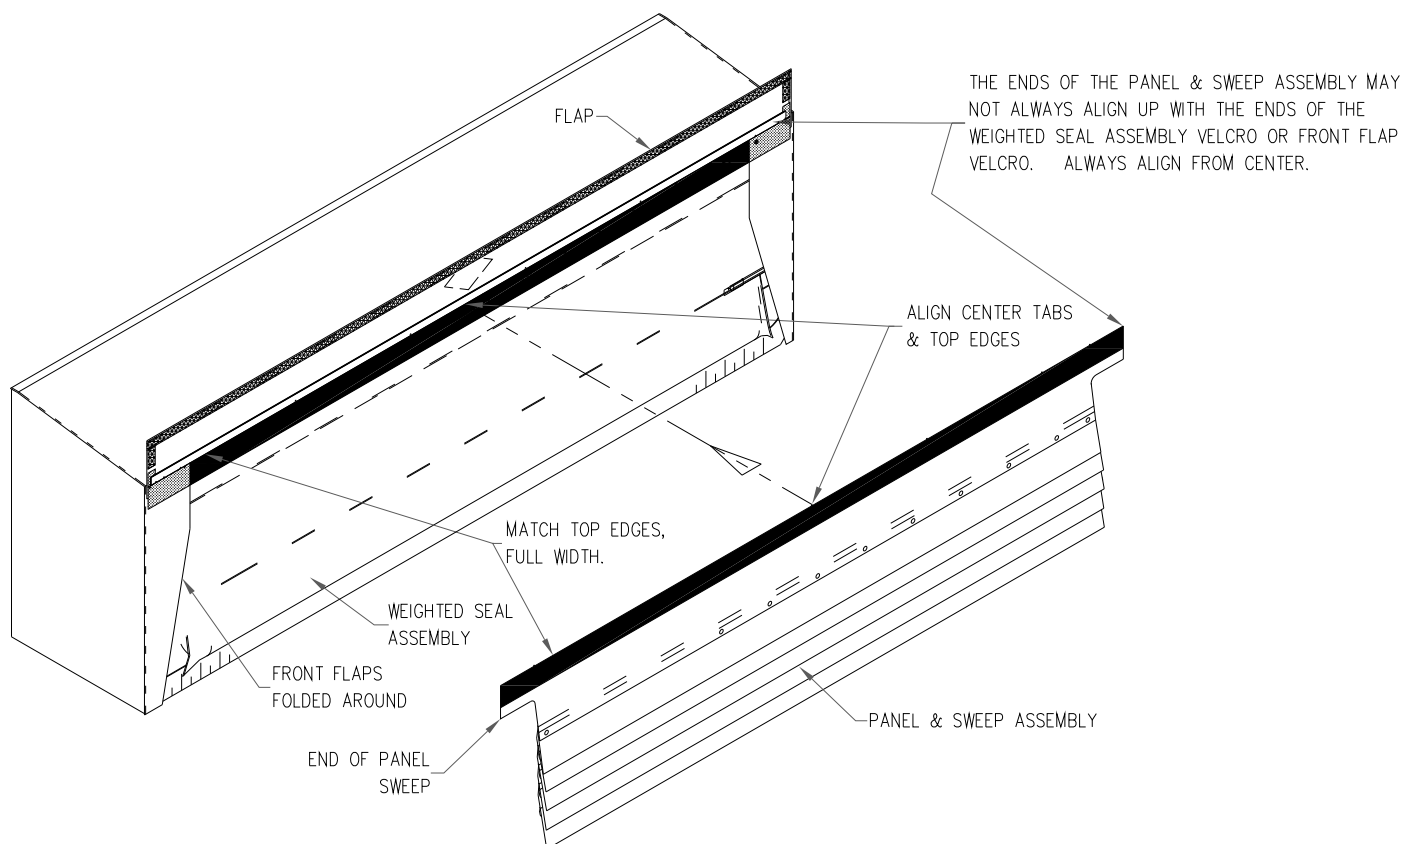

FIGURE 22
7. Install the impact plate assembly. This attaches in the same method as the weighted seal assembly by using and matching velcros together. Again, start at the center, align the tabs, match the velcros and top edges as you work out in both directions from the center across the face of the weighted seal assembly. **(Note:** The ends of the impact plate assembly velcro will not always align up with the ends of the weighted seal assembly velcro or endcap velcro). Verify the impact plate-mounting height by looking at the bottom of the last plate. The bottom edge should be flush to 1/2" above the center of the weighted seal it is in front of. If it is not, remove the impact plate assembly and re-adjust the attached location, and then re-attach. (See Figures 22 & 24)